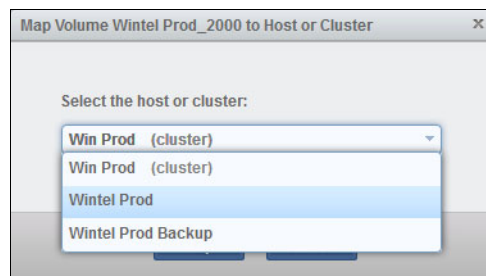

Figure 11-64 Map volumes to the selected host or cluster
3. The Map Volume to Host or Cluster window opens. Select the host or cluster from the list of configured stand-alone hosts and clusters, then click **Map**, as shown in Figure 11-64.